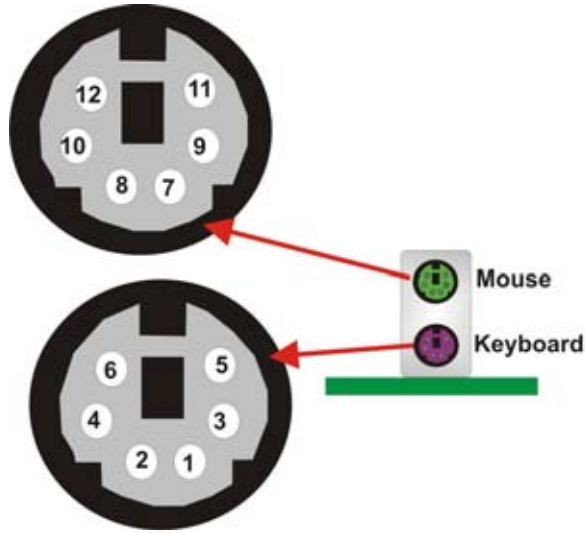

Figure 4-25: PS/2 Connector
- CN Pinouts:** See Table 4-23 and Figure 4-25